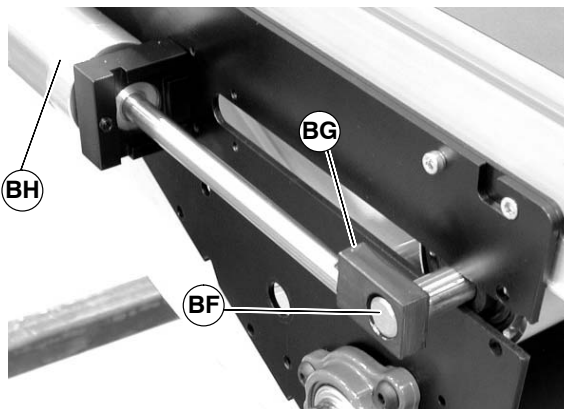

Figure 29
9. Push shaft (BF of Figure 29) through block (BG) on opposite side of center drive, slide block toward air cylinder (BH).